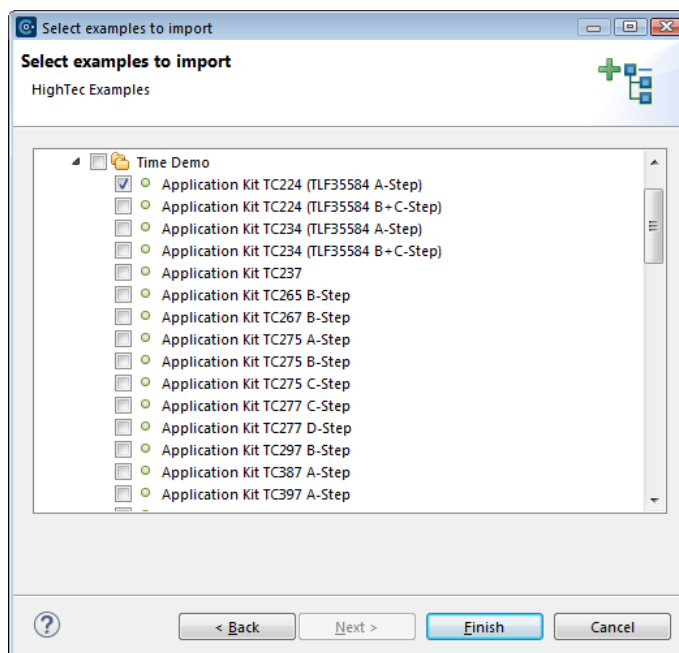

Figure 12 Examples – Hardware Selection
3. The next wizard page (Figure 12) shows a selection tree containing the TriCore boards supported by the toolchain. Expand the sample node e.g. **TimeDemo** and select **TriBoard TC26x A-Step**. Press **Next**.